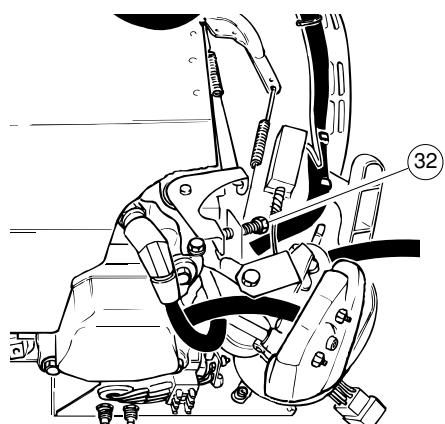

FIG. 10
If these values are not obtained, adjust the current regulation screw (pos. 32 fig. 10 and 15) until they are.